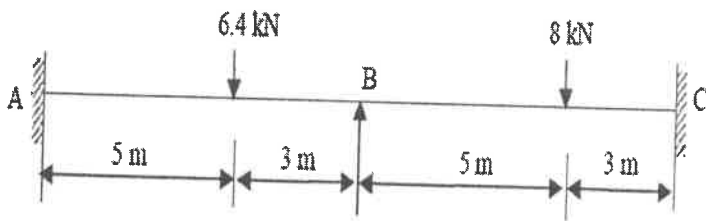

Fig.5
- 8 Analyze the continuous beam shown in figure 5 by moment distribution method. Draw shear force and bending moment diagram.